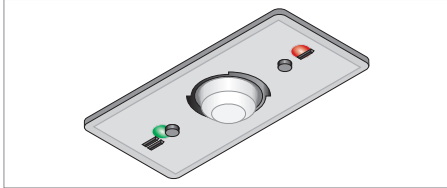

Fig. 11: Sensor operating panel PIR sensors.
- ▶ Press the button **I**, see Fig. 11.
- ▶ Press the button **II**, see Fig. 11.
- ▶ Press the button **I** and keep it pressed, see Fig. 11.
- ▶ Press the button **II** and keep it pressed, see Fig. 11.